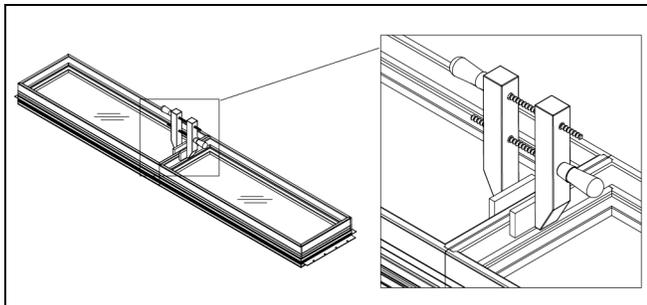

Figure 30
2. Position units together in the desired configuration. Check to be sure that the frames at both ends of the mullion are flush and the nailing fin kerfs are aligned. Lightly clamp units together on interior near each end to hold mulled units in place (use wood blocks to protect interior). See Figure 30.